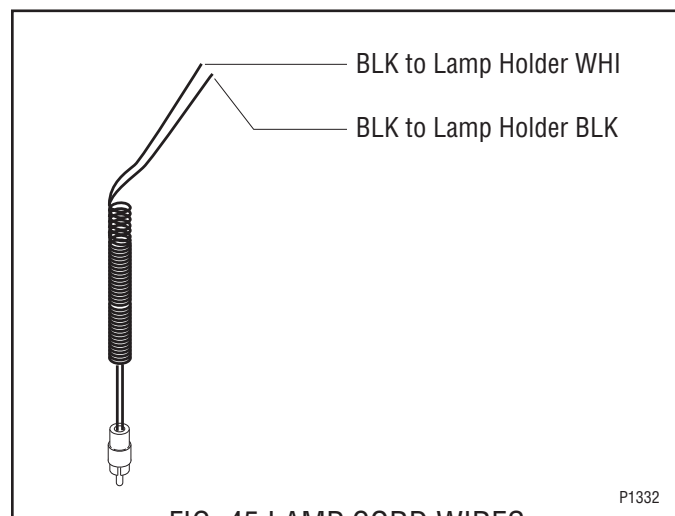

FIG. 45 LAMP CORD WIRES
12. Refer to Fig. 45 when reconnecting the wires.